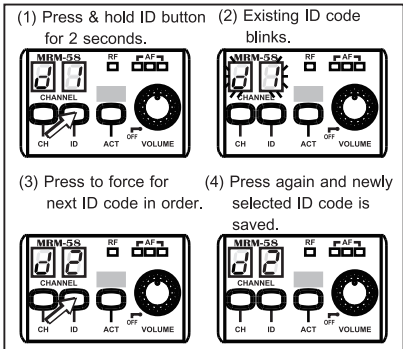

Fig. 6
- (A) 8 ID codes (d1-d8) can be selected. Select dP to enter “pairing mode” for 1-to-1 receiver to transmitter transmission. When paired and synchronized successfully via ACT button with transmitter, the receiver blocks signals from other MIPRO 5.8 GHz transmitter, and other receivers cannot receive the signal of the paired transmitter.
- (B) Press and release ID button **4** , the LED screen shows existing ID code: d1, d2, ...d8, dP, after 2 or 3 seconds, it will return to existing channel display.
- (C) Press and hold ID button, existing channel blinks. During blinking, press and release, the number starts to go forward to the next ID code in order (d1, d2, ...d8, dP) every two seconds. Press again, the number stops blinking and the new ID code is saved, Fig. 6.